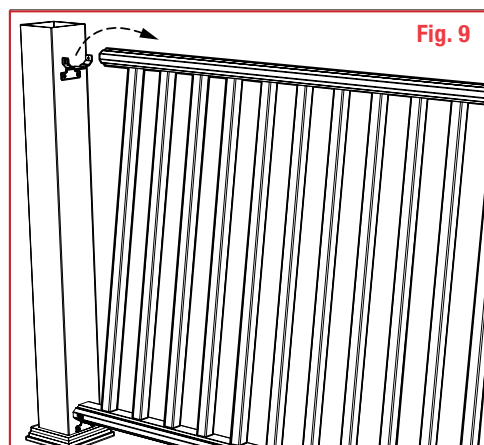

Fig. 9
**11** Remove the brackets from the rail. Tilt the rail outward from the post slightly to expose the face of the post. Reposition the top rail brackets at the marked locations on each post and install with the screws provided in the Marquee Straight Bracket Kit. Use 2" screws when mounting to a wood post or the 1-1/4" screws when mounting to Marquee Post Mount. (Fig. 9) Repeat on post at the opposite end of the rail section.